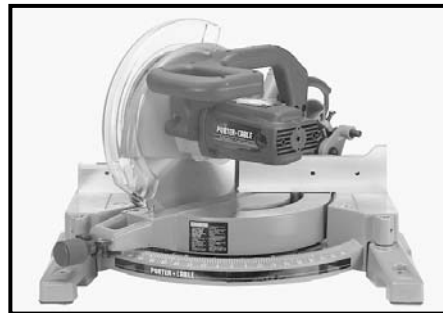

Fig. 2
4. The machine is shipped with the cuttinghead locked in the down position and the table rotated to 45 degrees left, Fig. 2. To release the head and move it to the operating position, see **“MOVING CUTTINGHEAD TO THE UP POSITION”** and **“MOVING THE TABLE TO THE 90 DEGREE CUT-OFF POSITION”** in this section.